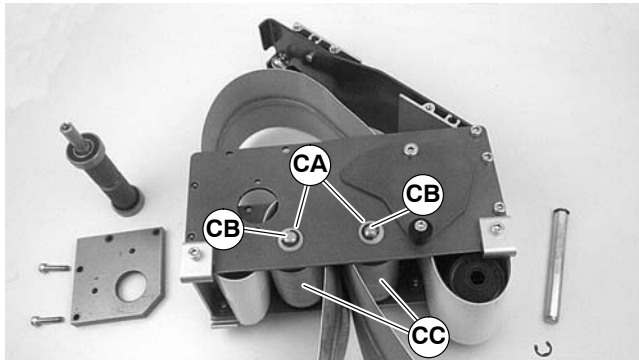

Figure 47
- For 2” (44 mm), 3” (70 mm) or 4” (95 mm) wide conveyor, detach E-ring clips and remove washers (CA of Figure 47). Remove pulley shafts (CB) and pulleys (CC).